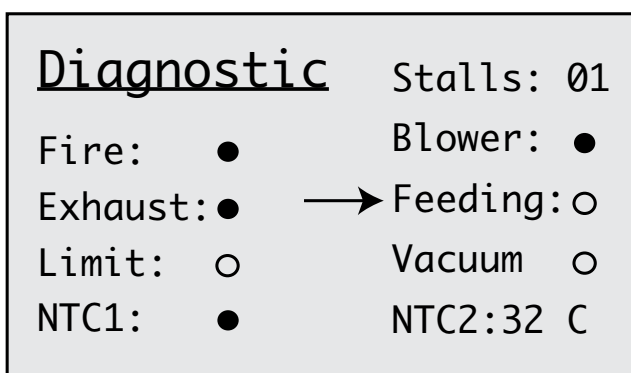

Figure 29
2. Using the SCROLL DOWN key, move to option 6, "Diagnostics". Press ENTER. This will take you to the "Diagnostics" screen. **SEE FIGURE 29.**